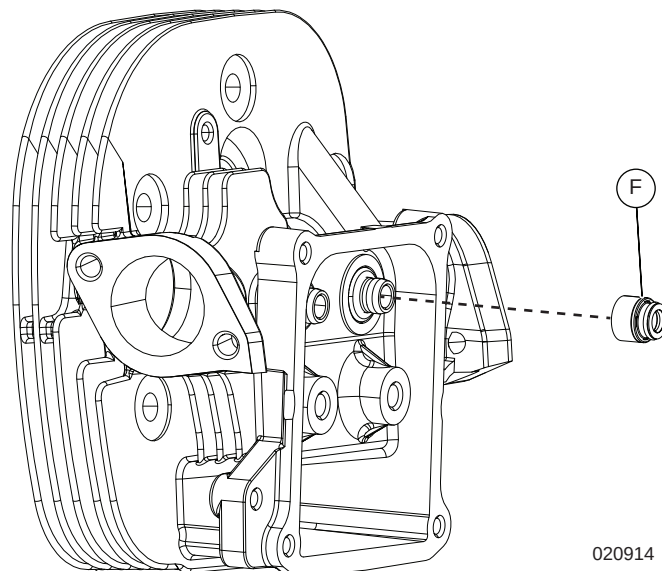

Figure 6-43. Remove Valve Stem Seal
4. See Figure 6-43. Remove valve stem seal (F) from cylinder head intake guide.